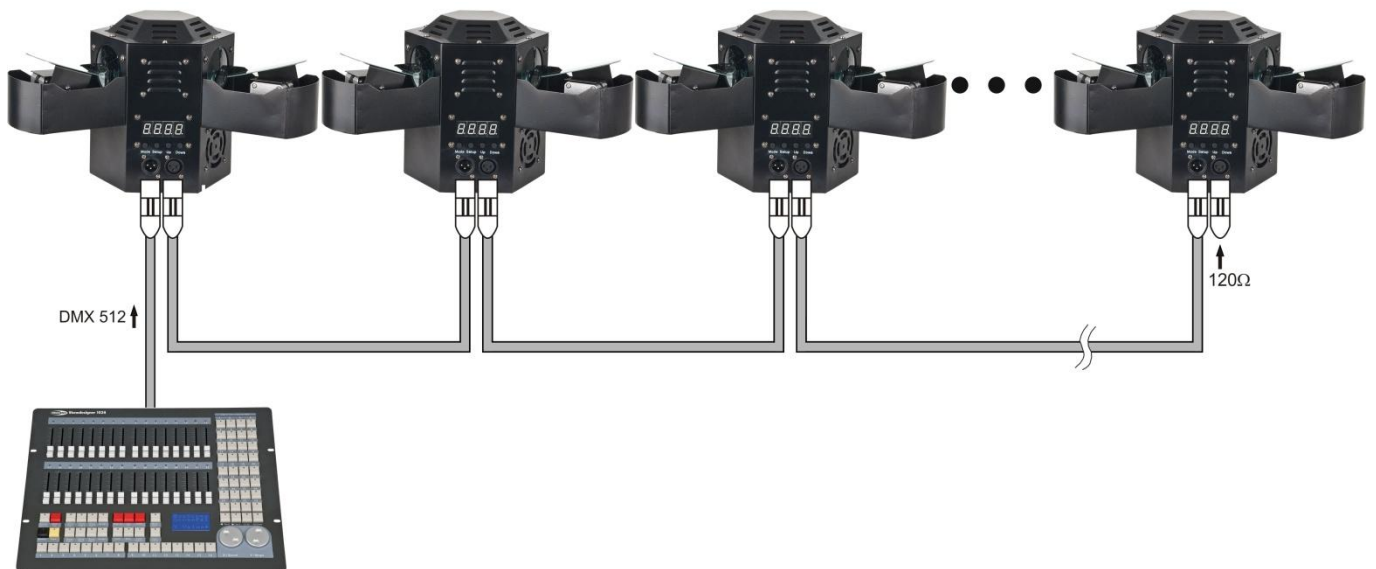

Fig. 3
4. Link the units as shown in (figure 3), Connect a DMX signal cable from the first unit's DMX "out" socket to the second unit's "in" socket. Repeat this process to link the second, third, and fourth units.